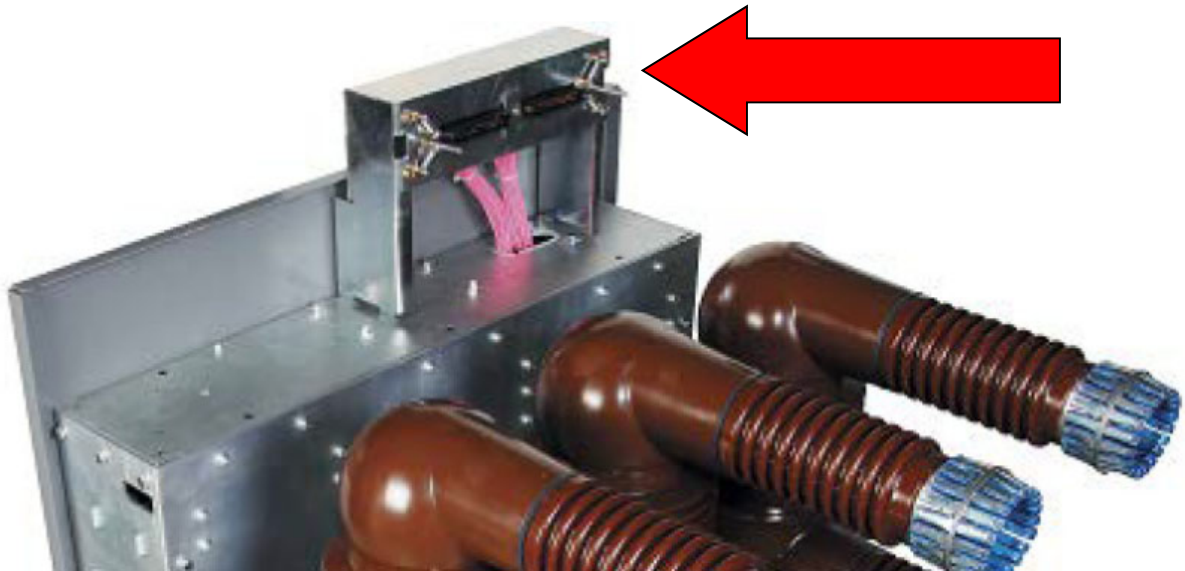

FIGURE 7
- 4.1. Locate the 38kV-HD secondary connector on the top of the breaker. Position the test cabinet breaker connector (10) and cable on top of the breaker behind the breaker's secondary disconnect. As shown with red arrow in (Figure 7)